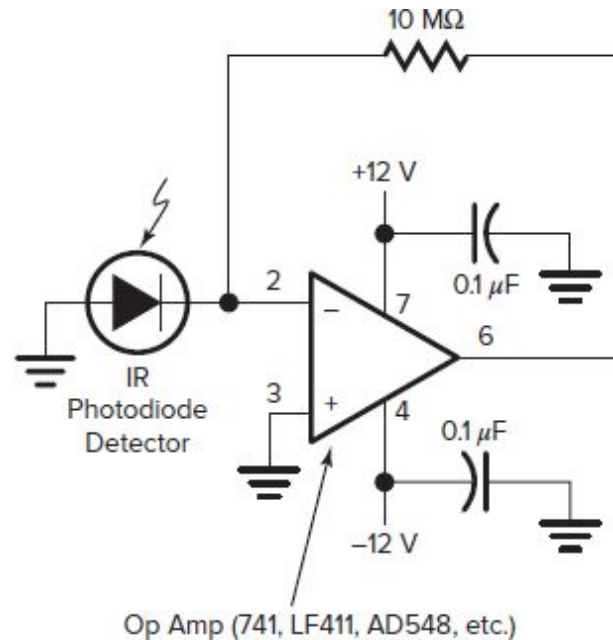

Fig. 20-3 IR receiver.
1. Construct the circuit shown in Fig. 20-3. The IR sensitive diode operates with reverse bias. The IR diode looks like a clear LED. The short lead is the cathode, and the cathode is the lead nearest the flat side of the housing. When infrared light strikes